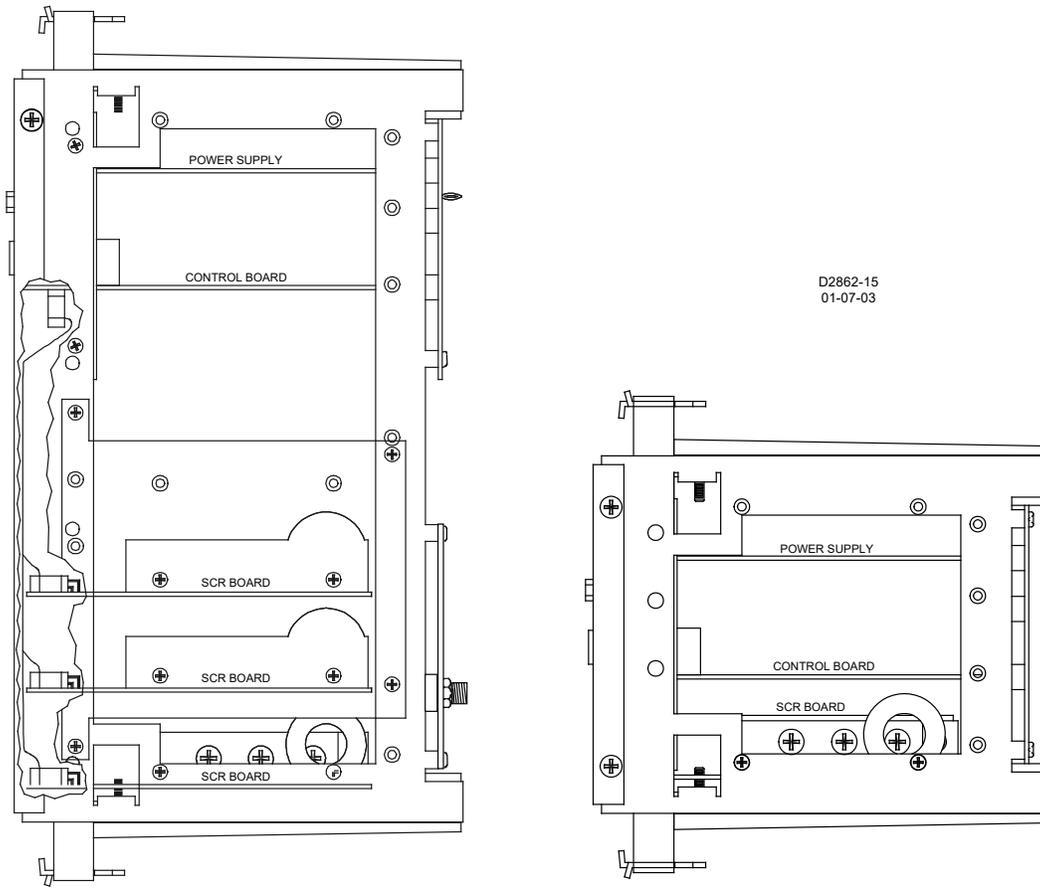
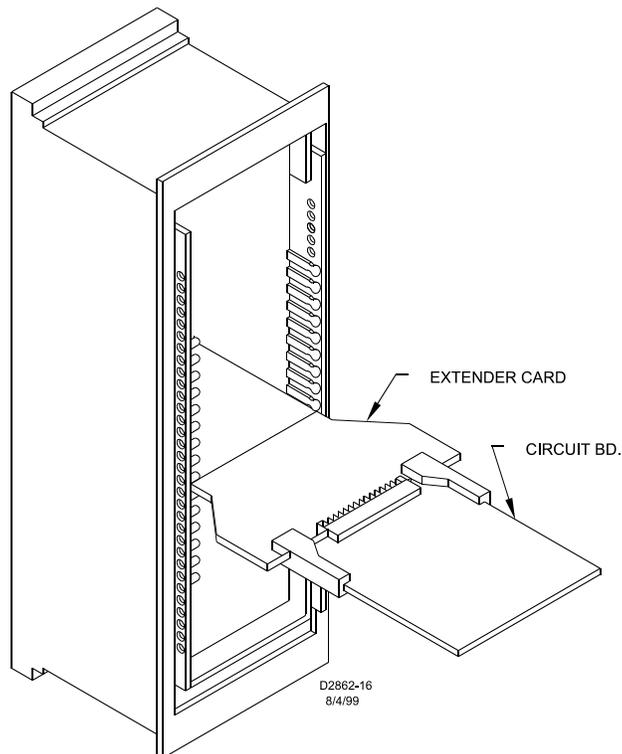

Figure 5-1. Side View of Cradle Assembly (M1 or 19" Rack-Mount and S1 Configuration)
Figure 5-2. Circuit Board Extender Card
The following procedures should be used for acceptance testing the BE1-87B relay. The only difference between testing a single-phase model and three-phase model is the test connections for phases B and C of the three-phase model. Refer to the connection diagram associated with each test. Also, refer to the *Controls and Indicators* section for the location and description of the relay controls and indicators. Figure 5-1 shows the side view of the M1 or 19" Rack-Mount and S1 relays with the individual circuit boards identified. Figure 5-2 illustrates the use of the circuit board extender card.
4. Remove the Control Board, refer to Figure 5-1, and install the Circuit Board Extender Card, Basler part number 9112930101 (refer to Figure 5-2).